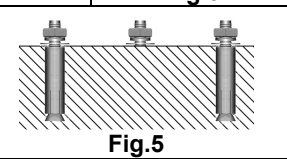

Fig.5
- Fix the [FLANGE]: Fix the flange by three M8 nuts. (Fig.5)